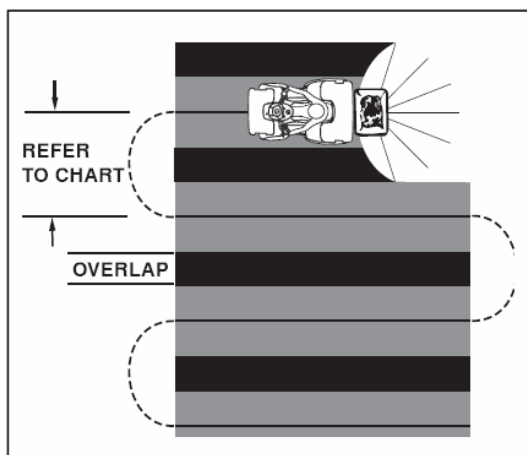

Figure 31
7. To insure uniform coverage, make each pass so that the broadcast pattern slightly overlaps the pattern from the previous pass (**Figure 31**). The approximate broadcast widths for different materials are shown in the application chart on this page.